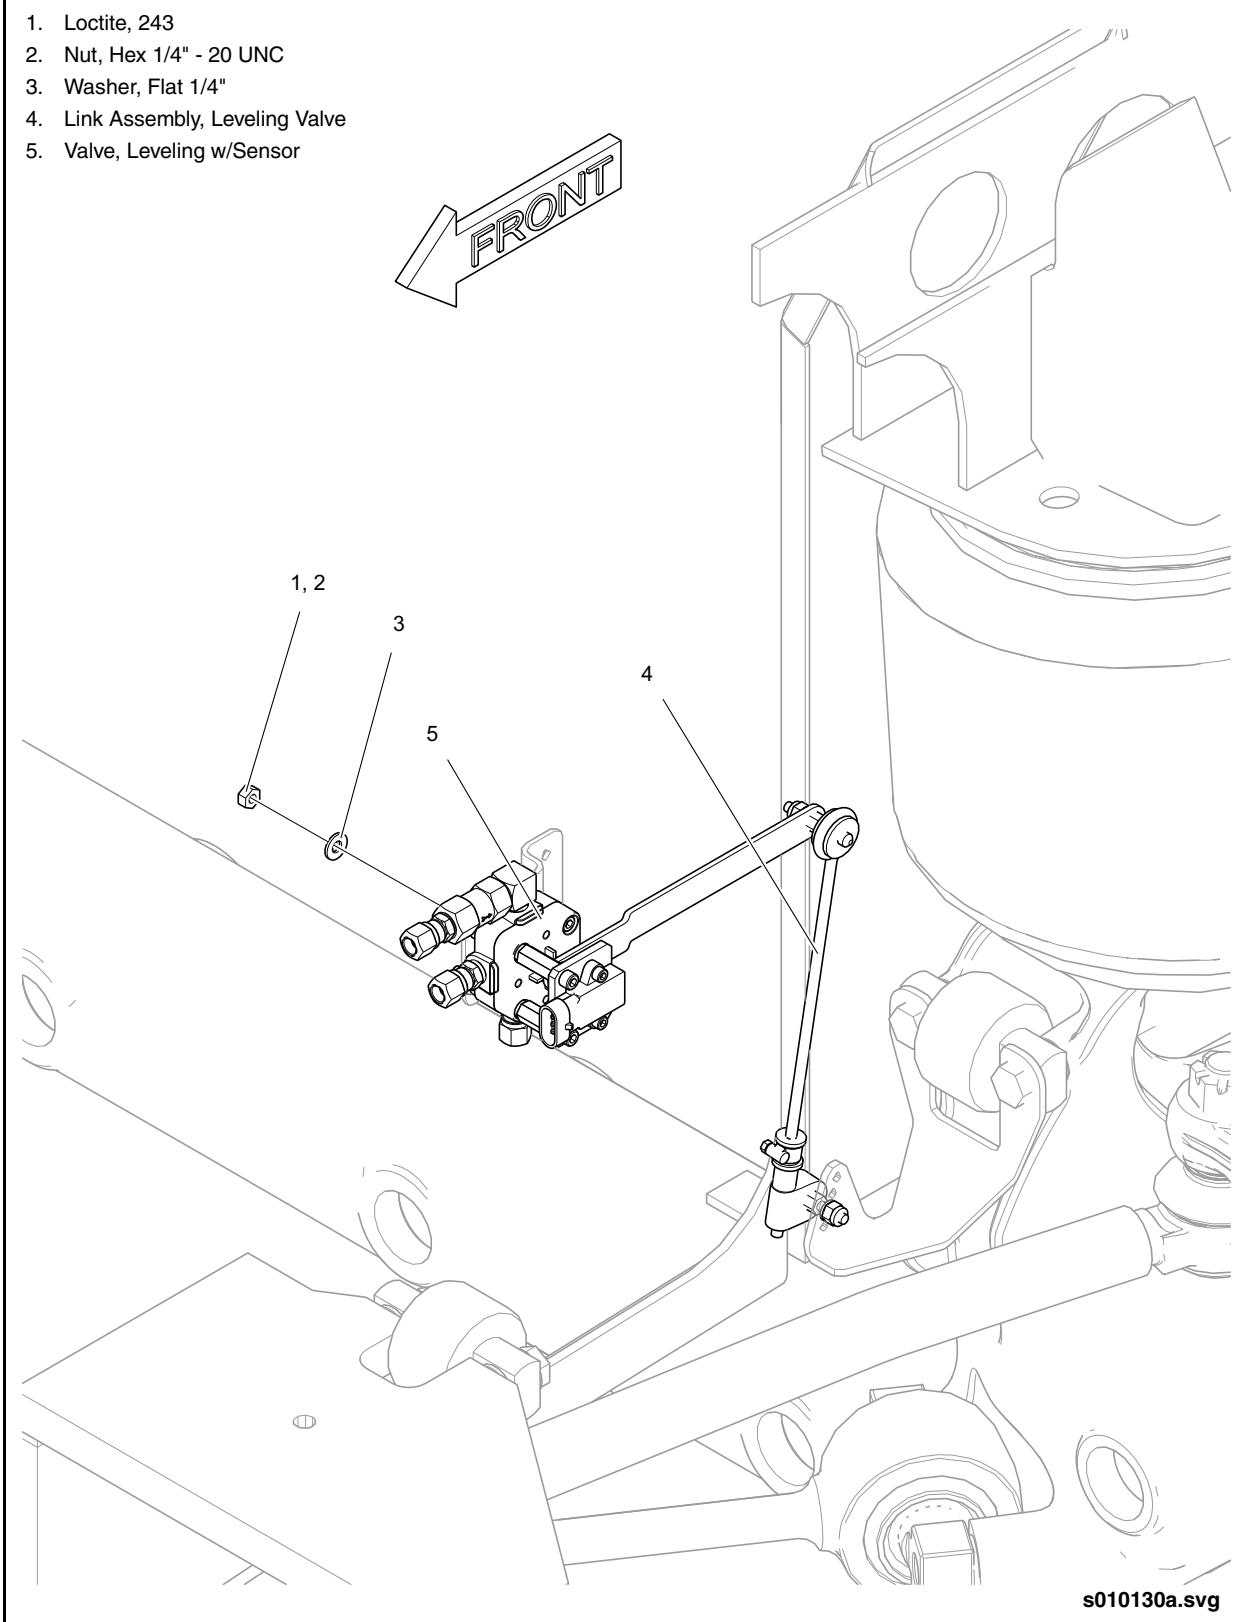
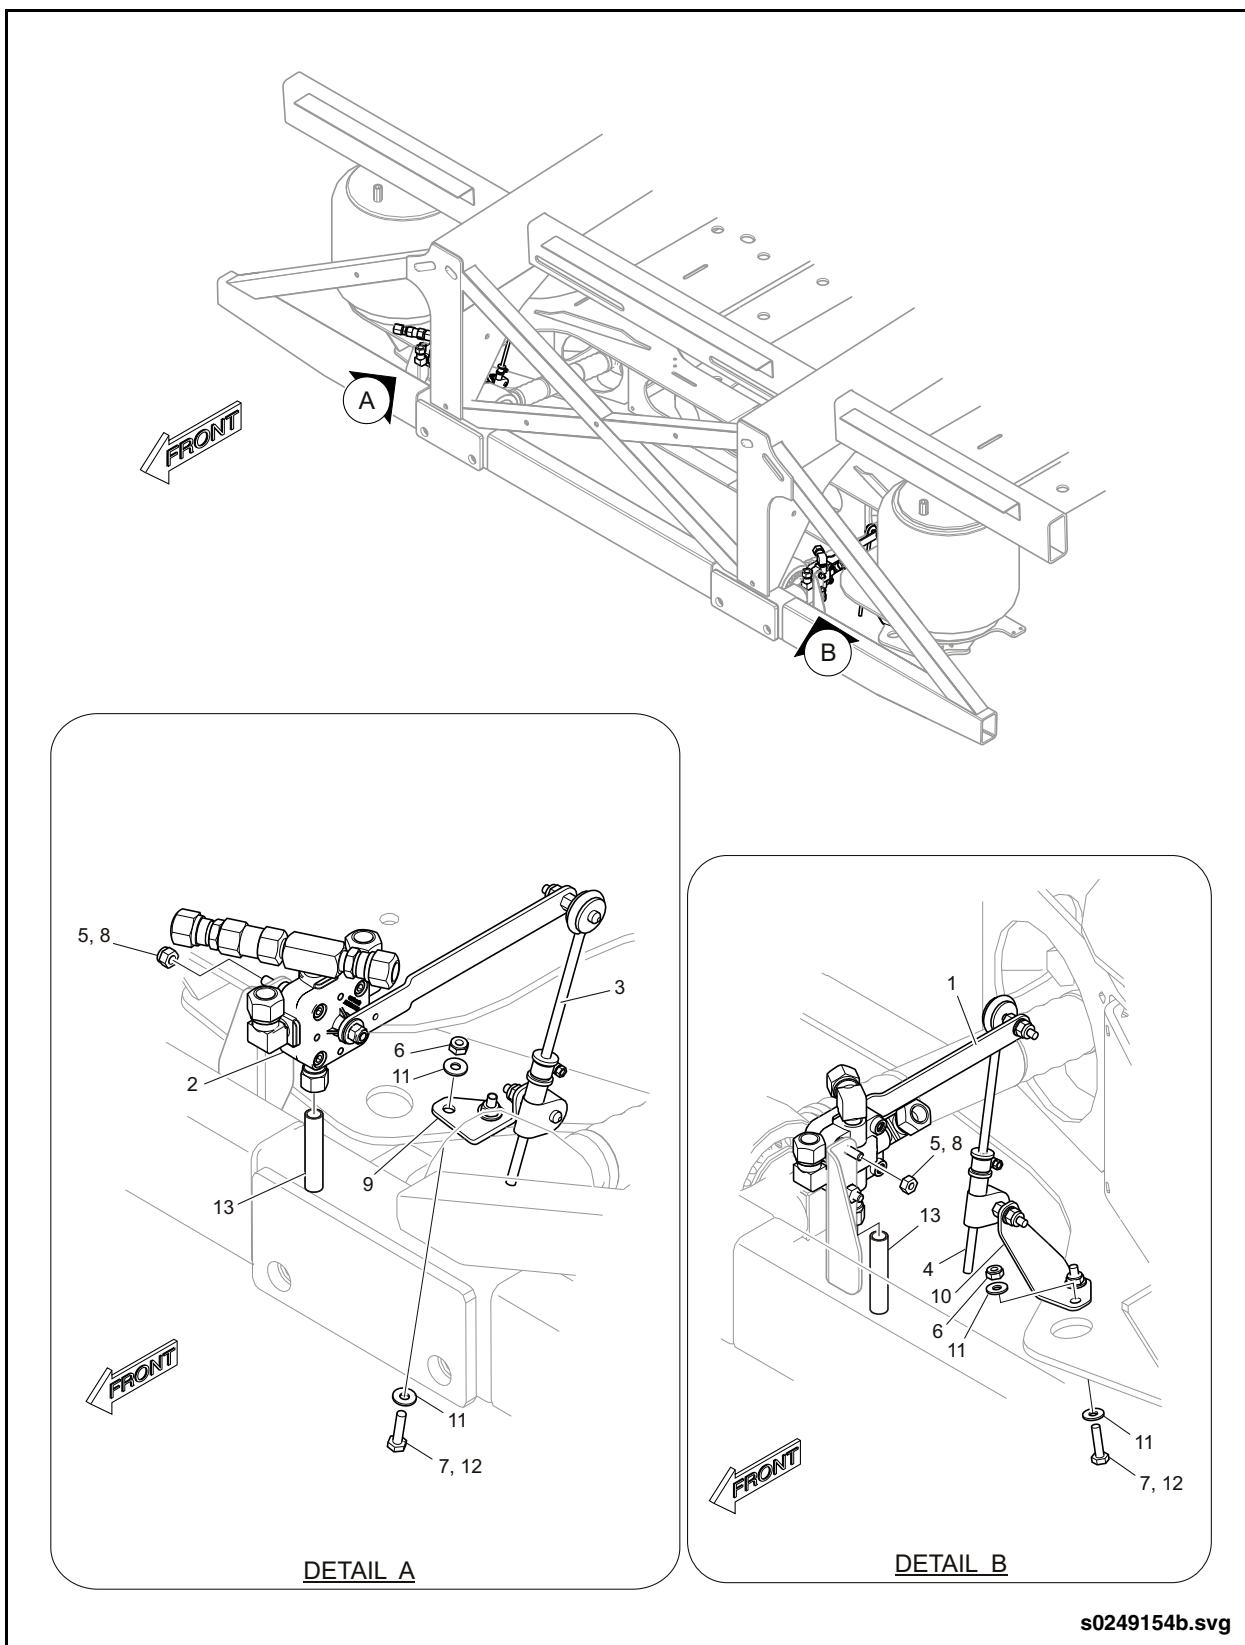

Fig. 8-27: Front Leveling Valve Installation
Fig. 8-28: Rear Leveling Valve Installation
1. Disconnect valve over-travel lever from the valve link. Pull lever downward to release compressed air from bellows. See “Fig. 8-27: Front Leveling Valve Installation” on page 91. See “Fig. 8-28: Rear Leveling Valve Installation” on page 92.